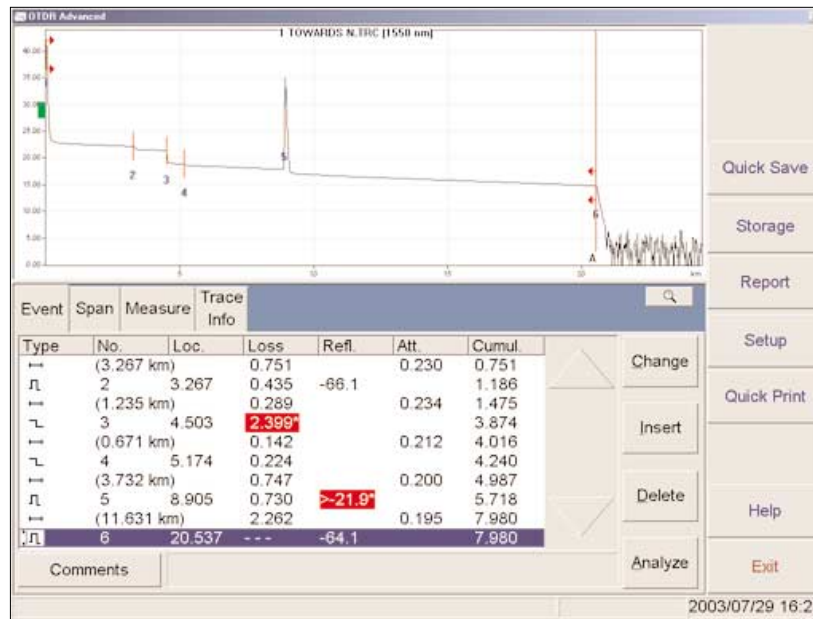

Figure 5: OTDR results for test layout #1
- **Challenges:** The most challenging part of testing PTMPN is the analysis that has to be done afterwards because of the intrinsic nature of that test. Indeed, OTDRs are designed to get Rayleigh backscattering from one span (point-to-point)—not from many spans that all add up (up to 32 in that case)—back to the main fiber between the OLT and the splitter to give results as shown below in Figures 5 and 9.
As shown in Figures 5 and 6 below, the PTMPN was characterized and the 10.8 dB loss from the 1:8 splitter didn't generate an end-of-fiber. All branches were properly located:
Loss calculated = 0.21 dB, when compared with PTMPN loss of 0.22 dB, as measured in Figure 5, event #4, and proving the theory.